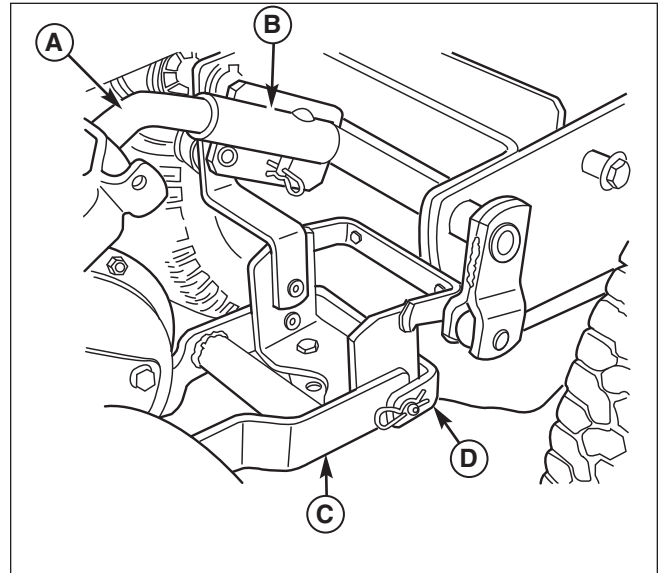

Figure 13. Tiller Installation
1. Position the tiller at the rear hitch and insert the lift bar (A, Figure 13) into the upper hitch (B). Secure with a clevis pin and safety clip.
2. Rotate the tiller upward so that the hitch arms (C) are aligned with the lower hitch (D). Secure with two clevis pins and safety clips.